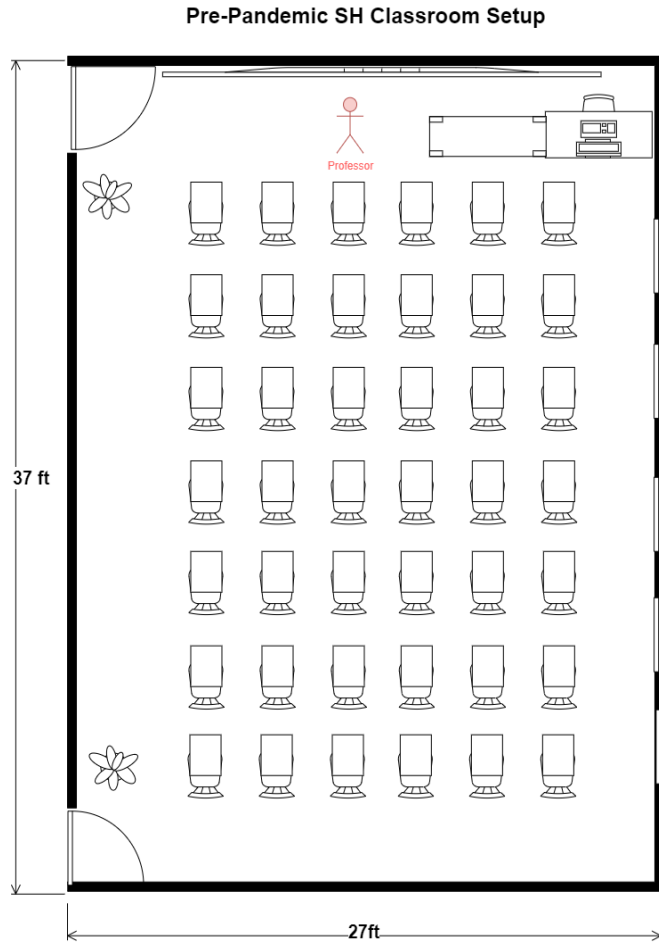

Fig. 5: Pre-pandemic Salazar Hall classroom setup, no social distancing whatsoever
- **Figure 5** shows the original configuration for a pre-pandemic Salazar Hall classroom.